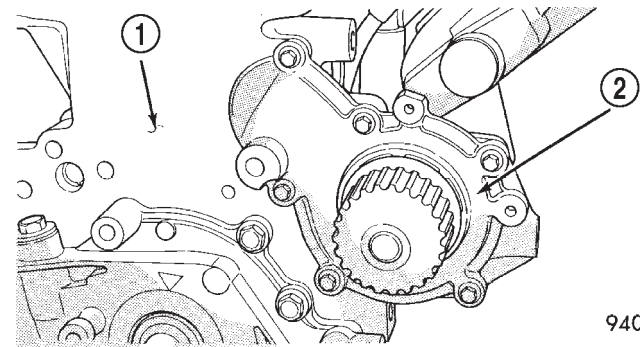

Fig. 19 Water Pump
- (1) Raise vehicle on a hoist. Remove right inner splash shield.
- (2) Remove accessory drive belts. Refer to procedure in this section.
- (3) Drain cooling system. Refer to Cooling System Draining in this section.
- (4) Remove power steering pump attaching bolts and set pump and assembly aside. Power steering lines do not need to be disconnected.
- (5) Remove upper and lower torque isolator struts.
- (6) Support engine from the bottom and remove right engine mount attaching bolt.
- (7) Remove right engine mount bracket.
- (8) Remove timing belt and timing belt tensioner. Refer to Group 9, Engine for procedures.
- (9) Remove camshaft sprocket and rear timing belt cover. Refer to Group 9, Engine for procedures.
- (10) Remove water pump attaching screws to engine and remove pump (Fig. 19).